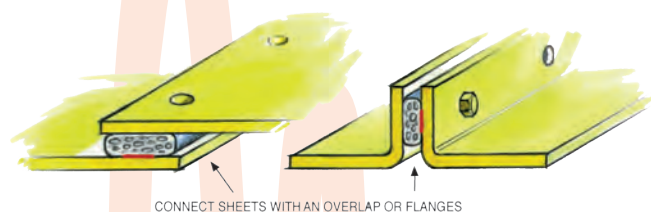

Figure 26.1: Examples of a stiff construction to prevent openings.
- It has the right dimensions (Fig. 26.1)
- The construction is stiff enough (Fig. 26.1)